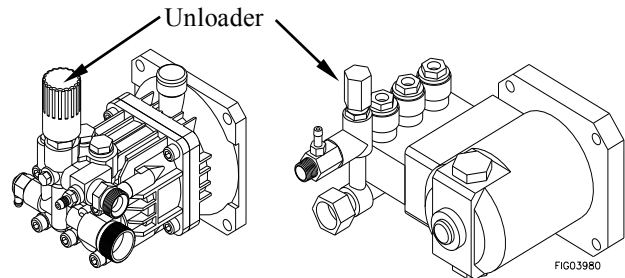

Figure 12
- The pressure washer is set and locked to the maximum rated pressure when it leaves the factory. To reduce the pressure, turn the Unloader knob counterclockwise (Figure 12).